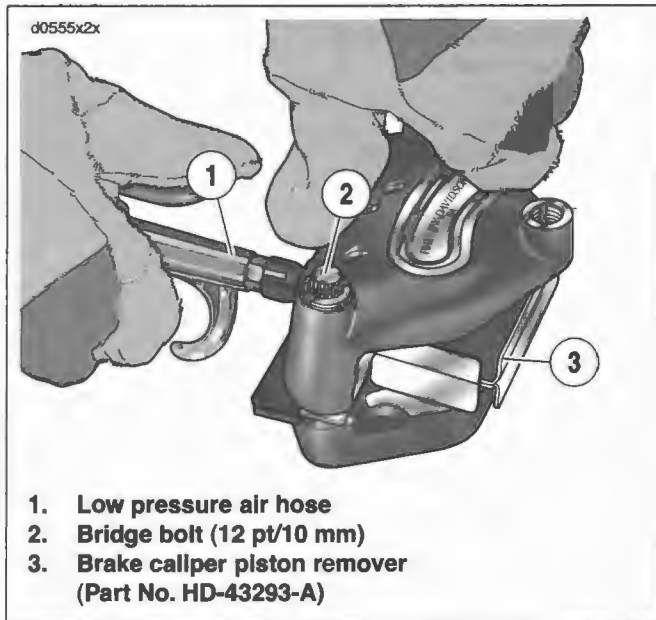
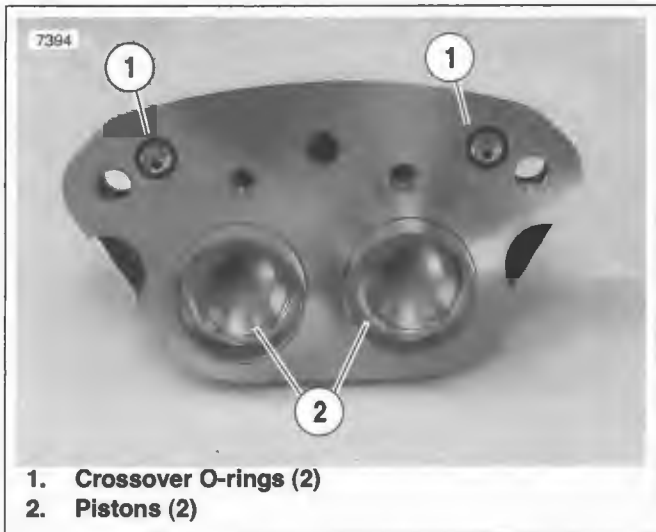

Figure 2-63. Removing Pistons
Figure 2-64. Crossover O-rings and Inside Housing
3. See Figure 2-63. Remove pistons.
- a. Place BRAKE CALIPER PISTON REMOVER (3) (Part No. HD-43293-A) between caliper housings.
- b. Insert two bridge bolts (2) (12 pt/10 mm) and tighten securely.
- d. Apply low pressure compressed air (1) to banjo bolt hole to remove pistons from caliper bores.
4. See Figure 2-64. Remove and discard both crossover O-rings (1) from inside caliper housing.
5. If necessary, wiggle pistons (2) from caliper bores to completely remove.
4. See Figure 2-64. Place two **new** crossover O-rings (1) on inside caliper housing.